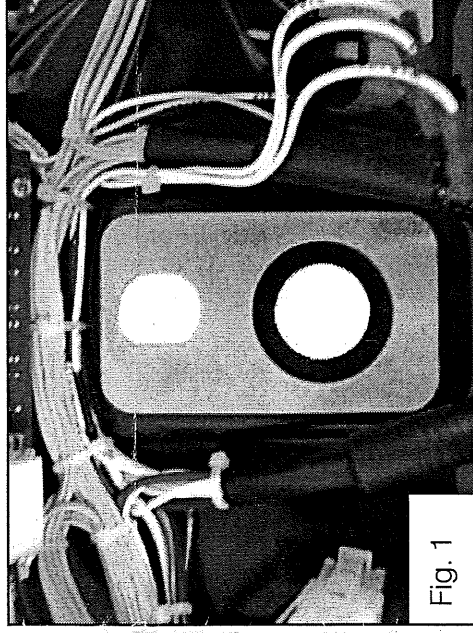

Fig. 1
4. Using new backing plate as a template, open Ignition Switch Mounting Hole in Dashpanel Moulding to 27mm diameter (Fig 1).